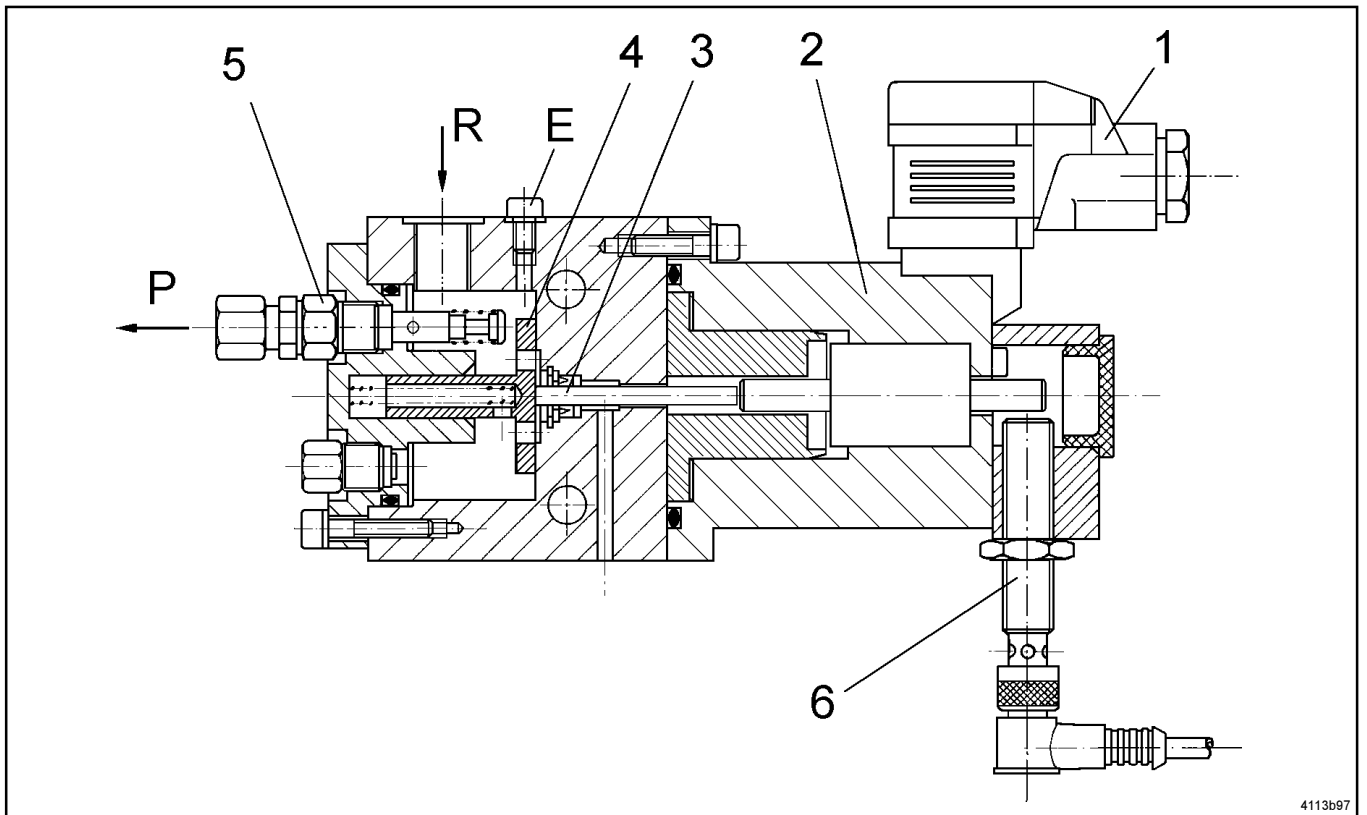

Fig. 2 - Sectional drawing of the PMA-1 magnetic pump
- The armature of the electromagnet (2, Fig. 2) receives an electrical pulse (energizing) from the proximity switch (7 Fig. 1;). It contacts the pressure plate (4, Fig. 2) via a tappet (3). The pressure plate causes the movement of the pistons in the pump elements (5) to move.
- The pistons eject a dosed quantity of oil to the pressure connection (P). The return stroke of the pump pistons and that of the armature are spring activated. During the return stroke the pistons suck fresh oil from the storage chamber. The pump is ready for the next lubrication pulse.
- The movement of the magnet and thus the operation of the pump are monitored via the proximity switch (6, fig.2 optional version).
- * Unscrew the venting screw (E, Fig. 2), until oil emerges. Then re-tighten the venting screw.